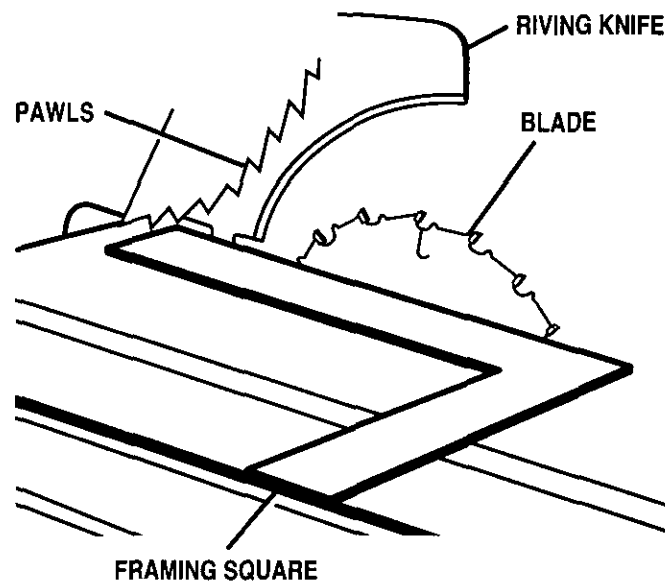

Fig. 33
See Figures 33, 34, and 35.
- Place a framing square or straightedge beside the blade on the left. See Figure 33.